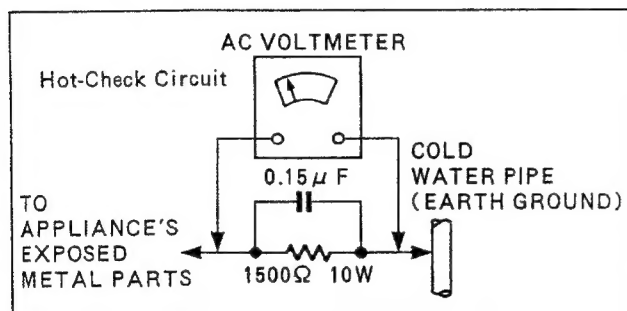

Figure 1
LEAKAGE CURRENT HOT CHECK (See Figure 1)
2. Connect a $1.5\text{ K}\Omega$, 10W resistor, in parallel with $0.15\mu\text{F}$ capacitor, between each exposed metallic part on the set and a good earth ground such as a water pipe, as shown in Figure 1.